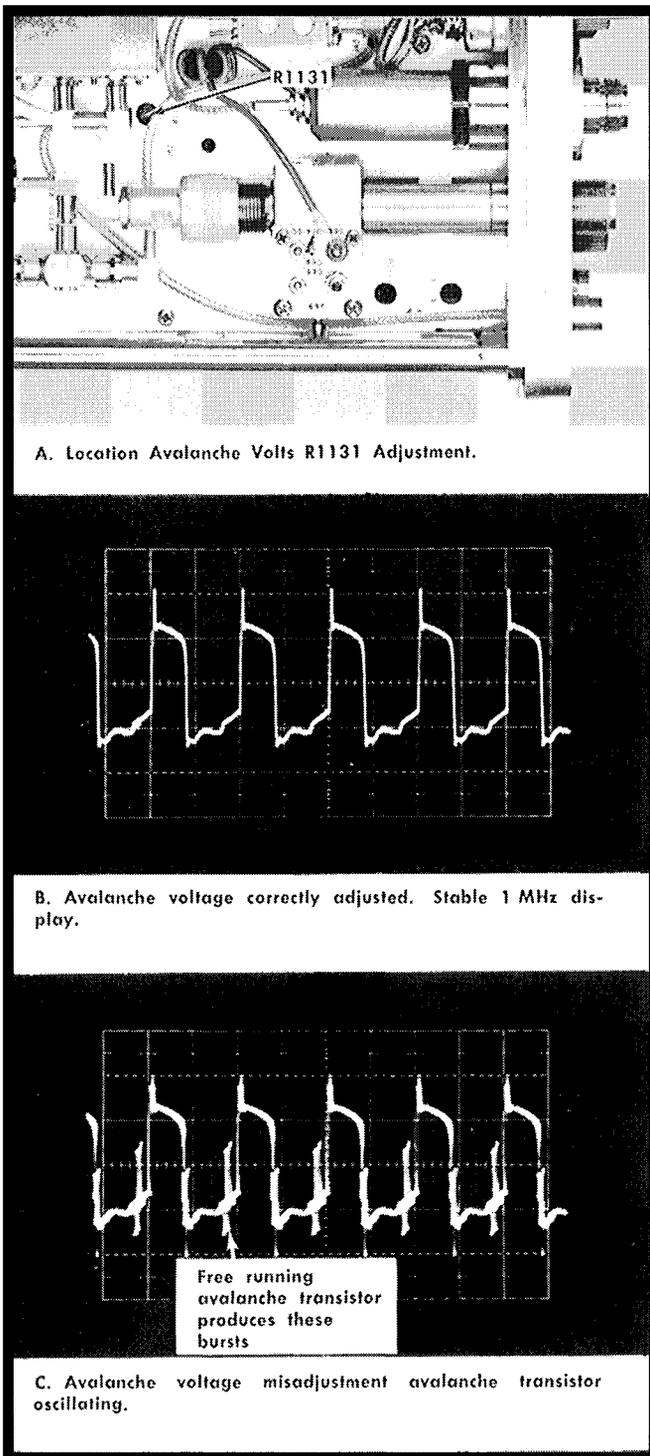

Fig. 6-33. Adjusting avalanche voltage.
- d. Adjust the Avalanche Volts R1131 (Fig. 6-33), from a fully ccw position, clockwise until the avalanche transistor is